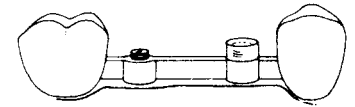

Fig. 17
3. Remove the retention nuts from the males and seat the males in the female eyelets. Place the cylindrical blockout sleeve over the male (Fig. 17).